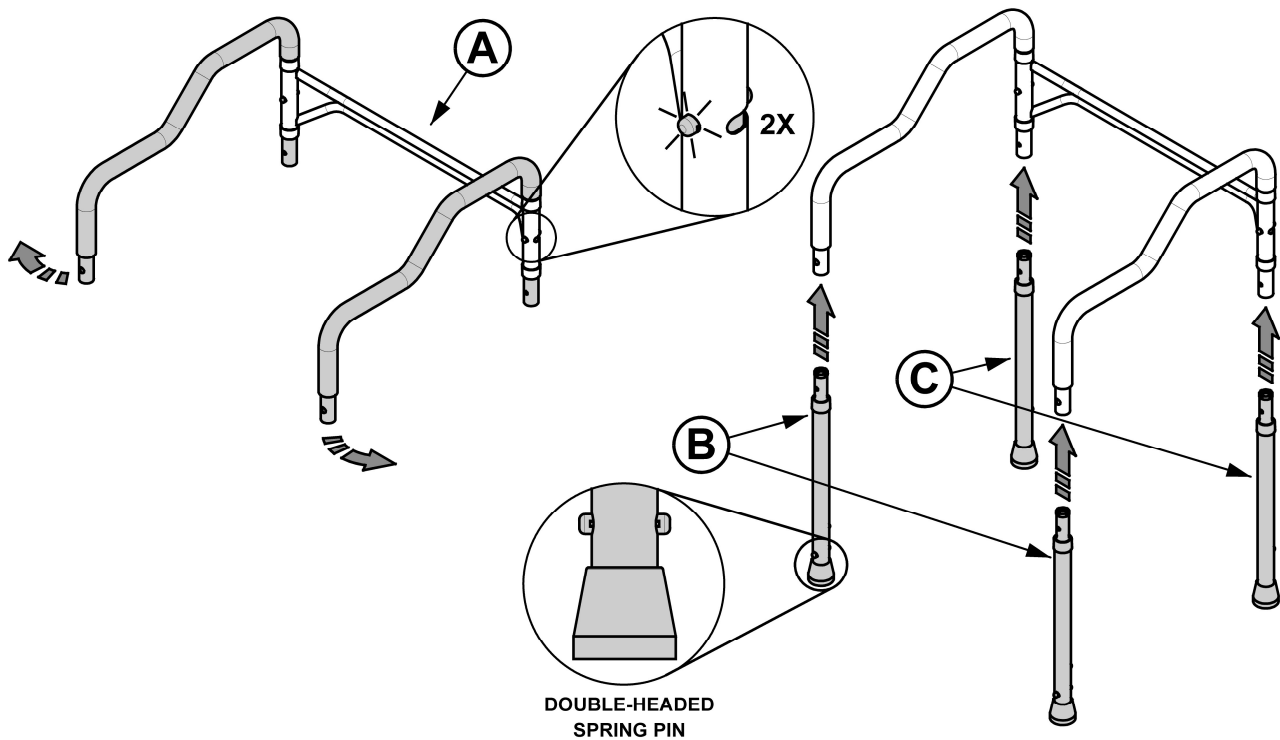

FIGURE 2
2. Swing out arms of (A) allowing the spring pins on each side to lock in place. Insert front legs (B) and rear legs (C) into (A) as shown in *FIGURE 2*. **NOTE:** Front legs (B) can be identified by the double-headed spring pin near the foot.